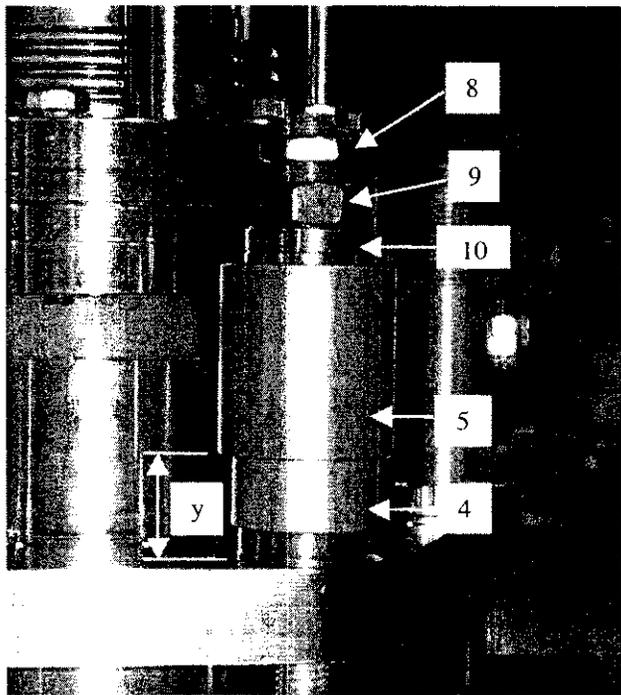
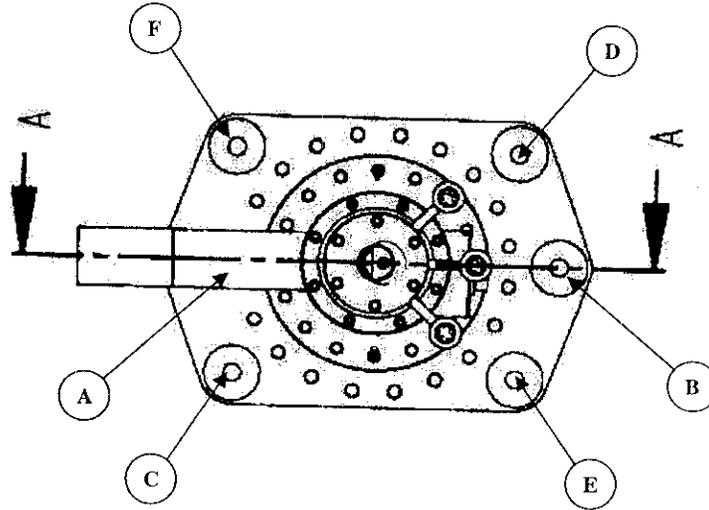

Figure 1.28a An installed Belleville Washer Assembly.
Figure 1.29.1.5 The specified sequence for tightening the Belleville Washer Assemblies.
- 1.28 Install Belleville Washer Assemblies on each tensioning stud per Figures 1.28a and 1.28b. A spherical washer must be placed below the Belleville washer holder on each stud. In the figures: Items 11 (10 each) are Belleville Washers, arranged as shown; Items 6 (2 each) are flat washers; Items 4 and 5 are the Belleville Washer Holder; Item 10 are Spherical Washers for above and below the washer holder; Item 9 is a loading nut; and Item 8 is a jam nut.
1.29.1.2 Tighten the 6 loading nuts finger-tight. With adjustable parallels, measure and record the gap "y" indicated in Figure 1.28a between Item 5 and the current lead top flange at the 6 locations specified in Figure 1.29.1.5. Units are mm.
1.29.1.4 Using the sequence A through F in Figure 1.29.1.5, tighten the loading nuts 1/4 turn until the total compression is 1.8 mm at each of the six locations. As each loading nut is tightened 1/4 turn, check off the appropriate line.
1.29.1.5 Record the final measured gaps 'y' in Figure 1.28a. Units are mm.
1.29.2.2 Tighten the 6 loading nuts finger-tight. With adjustable parallels, measure and record the gap "y" indicated in Figure 1.28a between Item 5 and the current lead top flange at the 6 locations specified in Figure 1.29.1.5. Units are mm.
1.29.2.4 Using the sequence A through F in Figure 1.29.1.5, tighten the loading nuts ¼ turn until the total compression is 1.8 mm at each of the six locations. As each of the loading nuts is turned ¼ turns, check off the appropriate line.
1.29.2.5 Record the final measured gaps 'y' in Figure 1.28a. Units are mm.